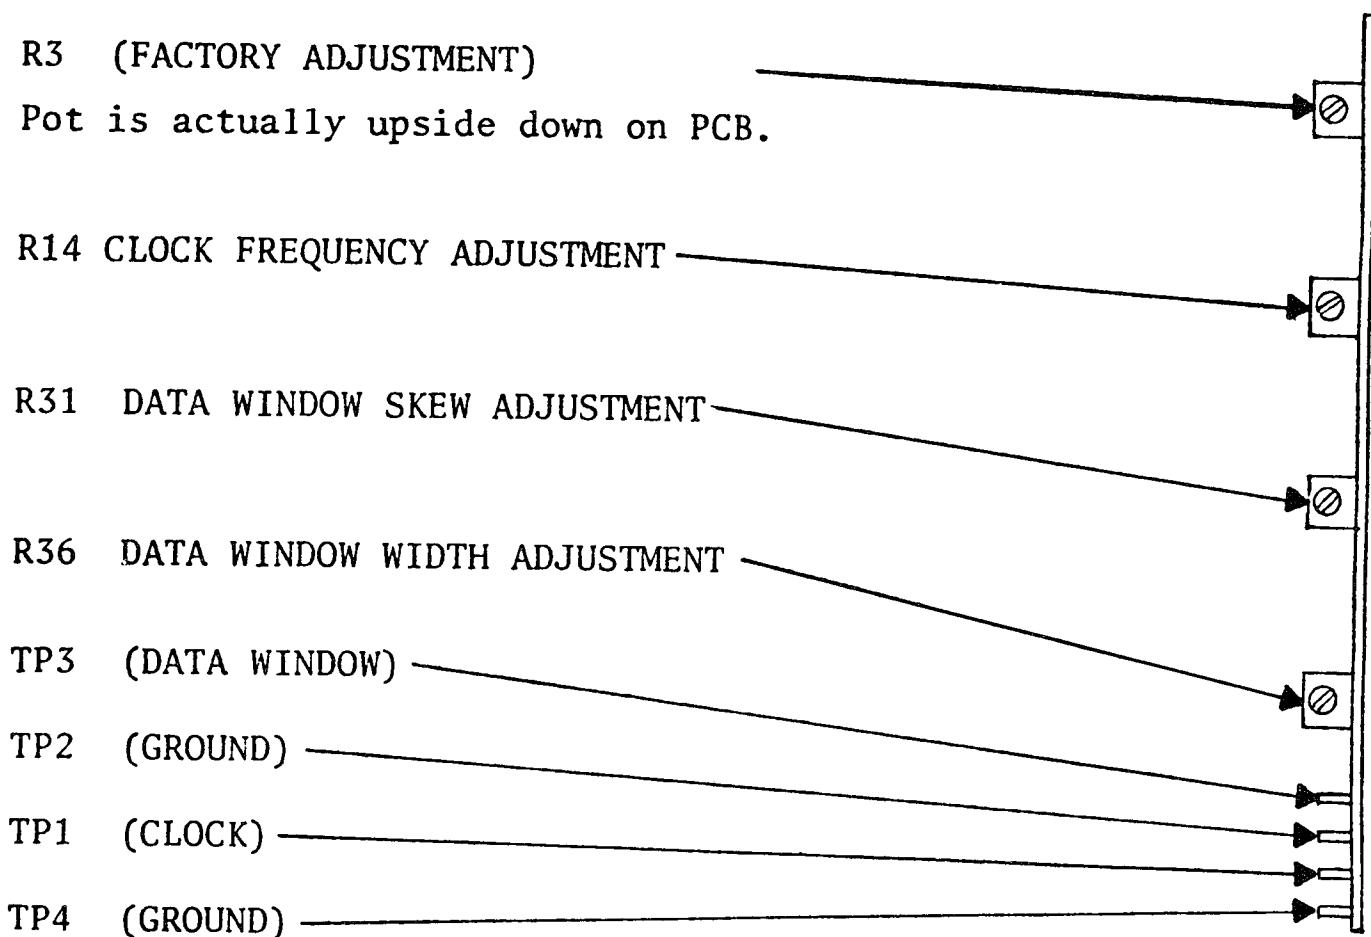

Figure 3-5. Data Separator and Test Point Location (End View)
7. Manually position the carriage slowly away from the spindle until the ready light goes out (the head-load area). The clock is now free-running, having no dabit signal to control the oscillator. Adjust R14, if necessary, to set the fre-running period to approximately 103 nanoseconds (Figure 3-5).
15. Change the scope display to chop sweep mode and connect the channel 2 input to TP3 (data window). (See Figure 3-5).